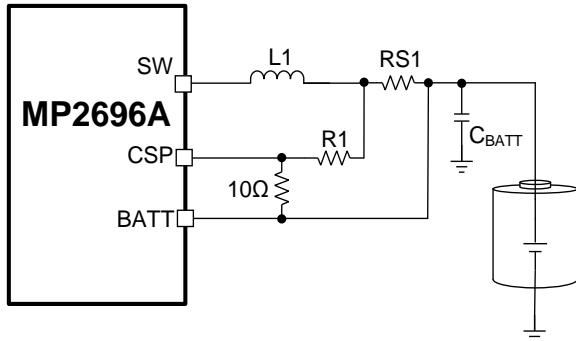

Figure 14: Current-Sense Compensation
The soldering tin has resistance. For a 10mΩ resistor soldered on the PCB, the total resistance between resistor pads is about 11mΩ to 12mΩ. One compensation method is to apply a resistor divider for the CSP/BATT pins (see Figure 14 on page 30). After the PCB is assembled, apply a 2A DC current source between SW and BATT, measure the voltage drop across the current-sense resistor on its PCB pads (V_{CS}). Then $R1$ can be calculated using Equation (12):